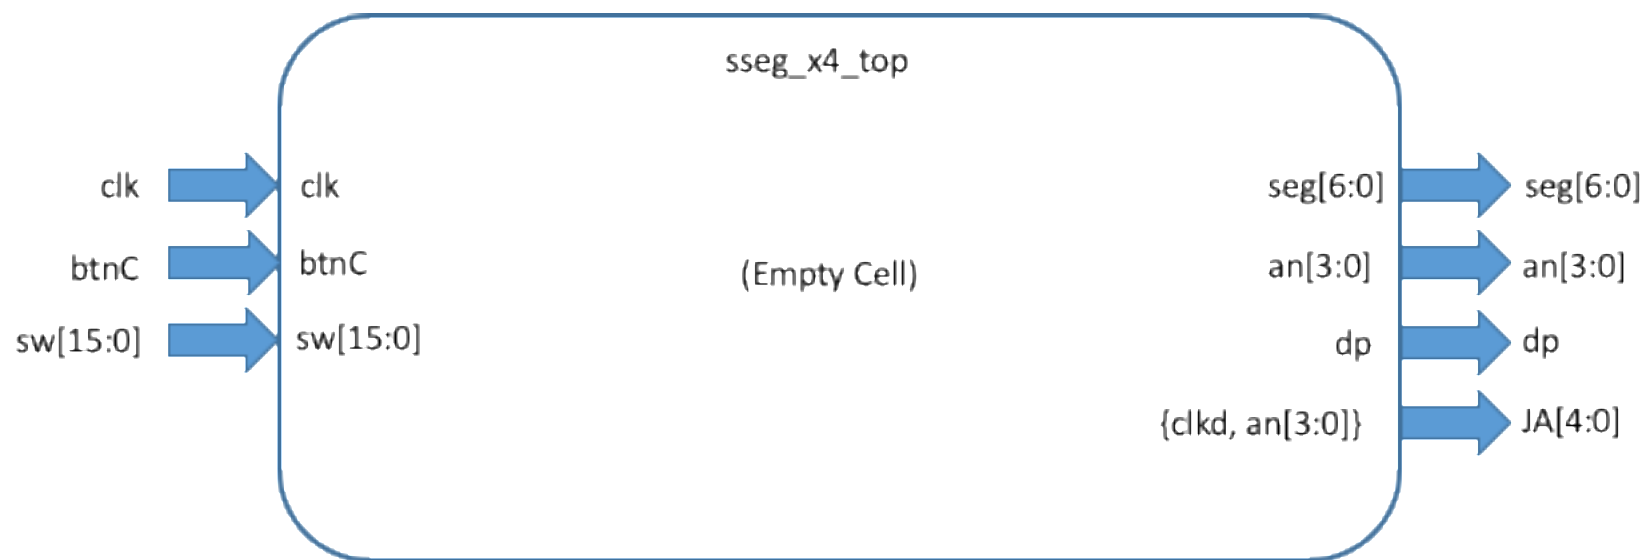

Figure 2 – Block Diagram of Top Level Module creation
Part 1a. Create a new project called “sseg_x4_top”. The ports will be the 16 dip switches (sw), the center pushbutton as a divider reset (btnC), the 7-seg LEDs (seg), all 4 column selectors (an), the decimal point (dp), five of the PMOD JA pins (JA) and the clock input (clk). The flip-flops in the project will all be reset by the middle push-button on the Basys board (btnC). This reset signal will need to be passed to all modules that use flip-flops (Figure 2).